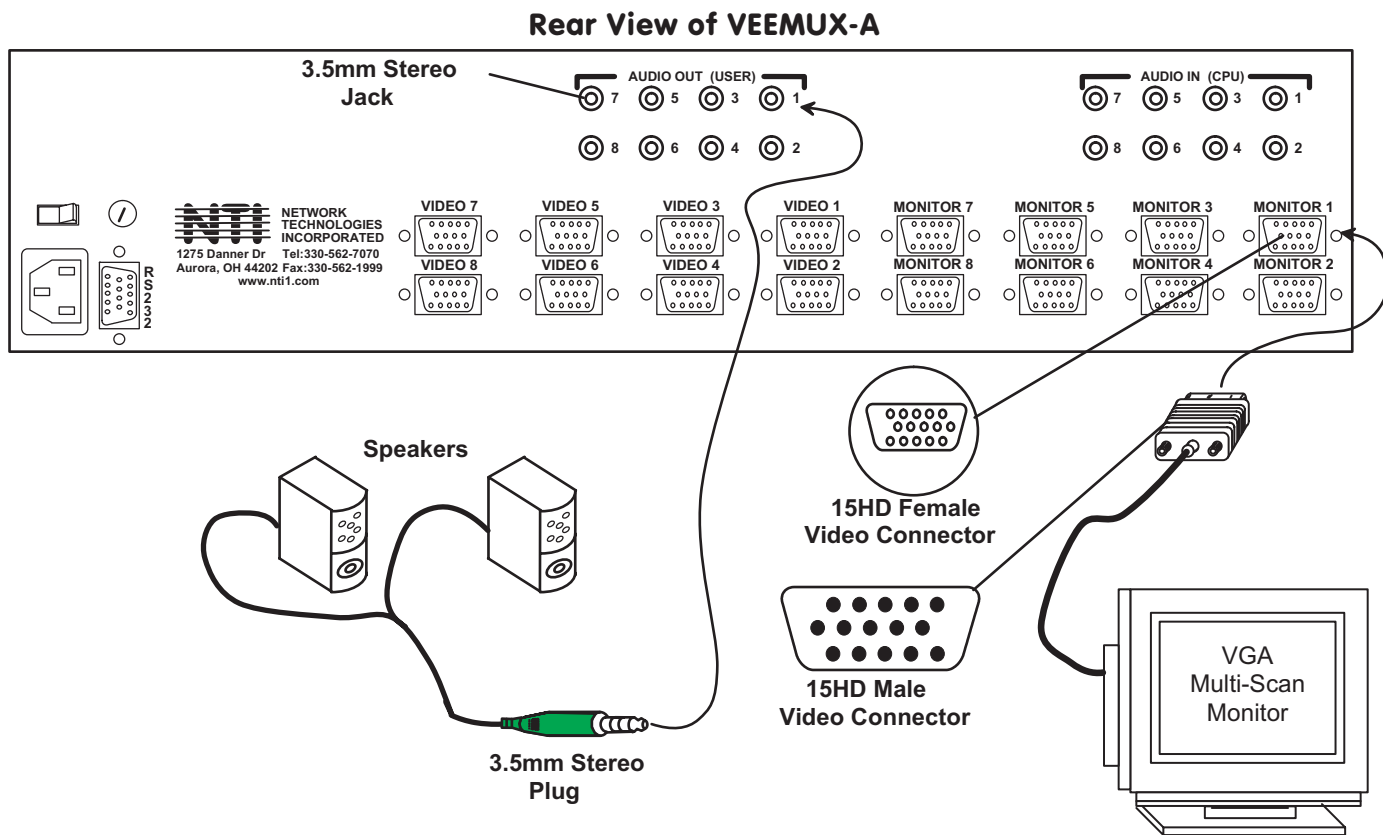

Figure 2- Install Monitors and Speakers
6. Connect a monitor to the port labeled MONITOR 1 on the rear of the VEEMUX-A (see Fig. 2).